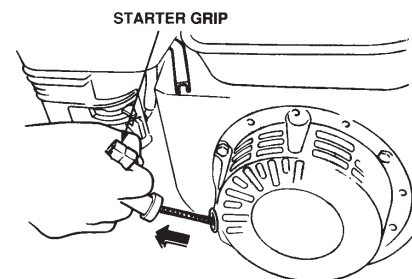

Figure 12. Starter Grip
6. Grasp the **starter grip** (Figure 12) and slowly pull it out. The resistance becomes the hardest at a certain position, corresponding to the compression point. Pull the starter grip briskly and smoothly for starting.